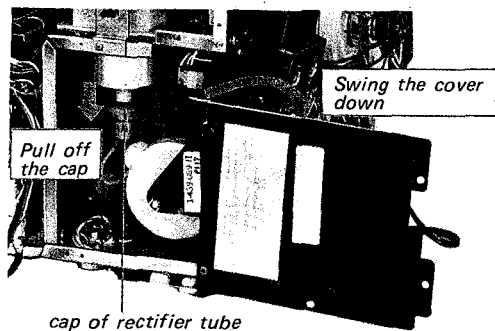

Fig. 2-33.
- 7. Swing the cover of high voltage cage down as shown in Fig. 2-33.